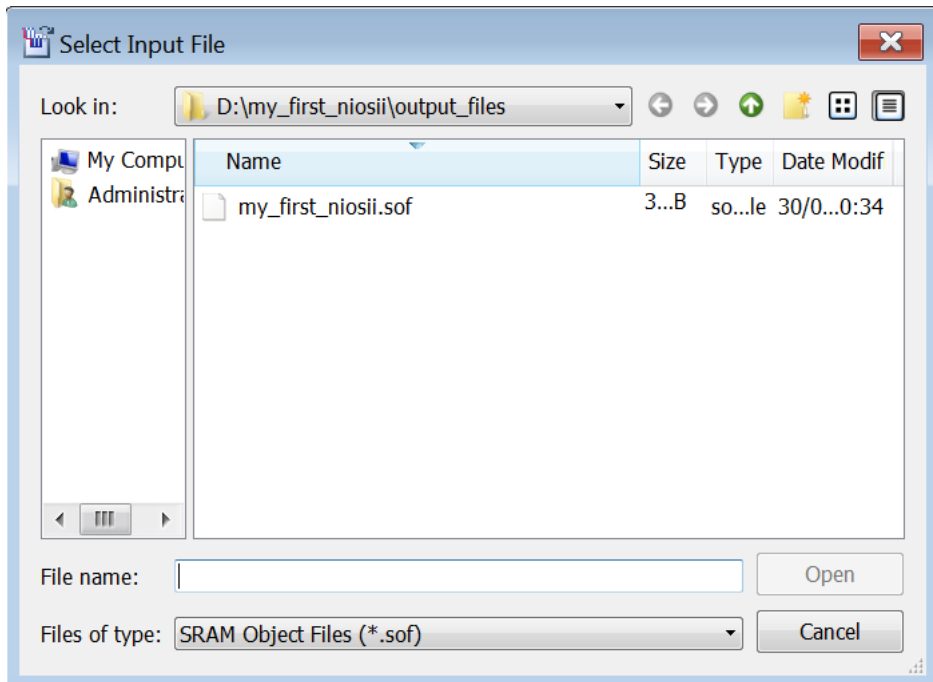
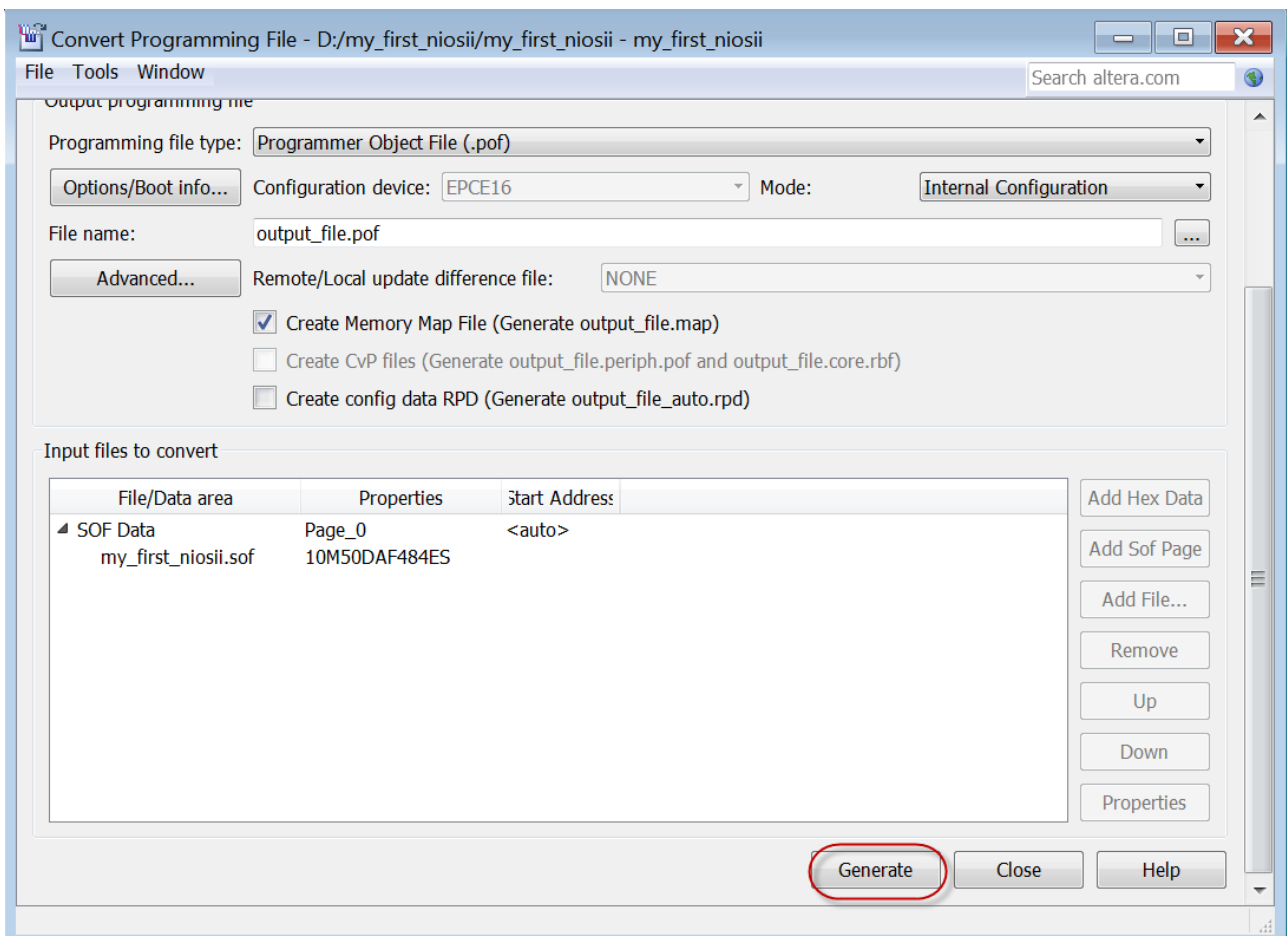

Figure 3-15 Select my_first_niosii.sof
Figure 3-16 Click Generate to create the .pof file
4. Click **Add File** from the **Input files to convert** section and point to the generated Quartus II .sof file my_first_niosii.sof, as shown in **Figure 3-15**. Click **Generate** to create the .pof file, as shown in **Figure 3-16**.